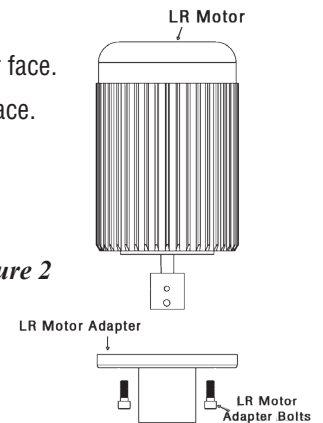

Figure 2
2. Remove the motor adapter bolts (see Figure 2) and separate the motor adapter from the motor.